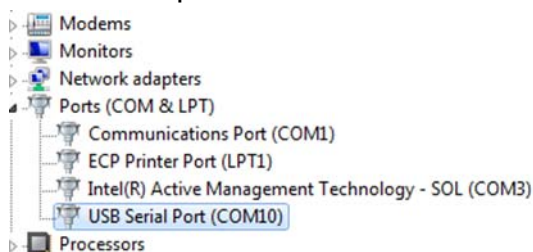

Figure 4-9: Windows Device Manager > Ports
4. After connecting the HPA, the target PC should recognize the newly connected hardware and connect to it using the previously installed VCP FTDI drivers. Wait until this process is complete. Check the Windows device manager Ports section and note the newly added USB Serial Port (See **Figure 4-9**). You will need a COM port designator in the next step.